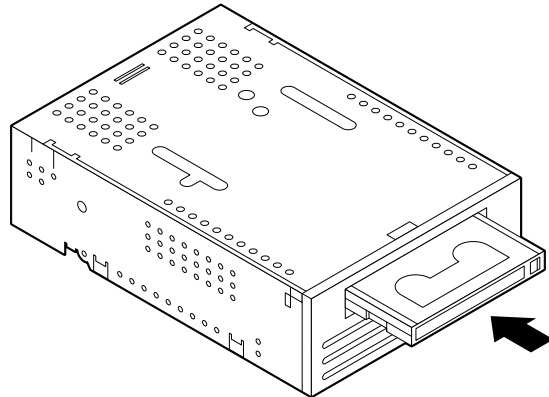

Figure 20. Cartridge Loading (Internal DAT Drive)
Figure 20 illustrates cartridge loading (internal drive shown).
1. Gently push the blank cartridge into the cartridge insertion slot on the front panel with the arrow on the top side of the cartridge entering the opening first. (See Figure 20.)